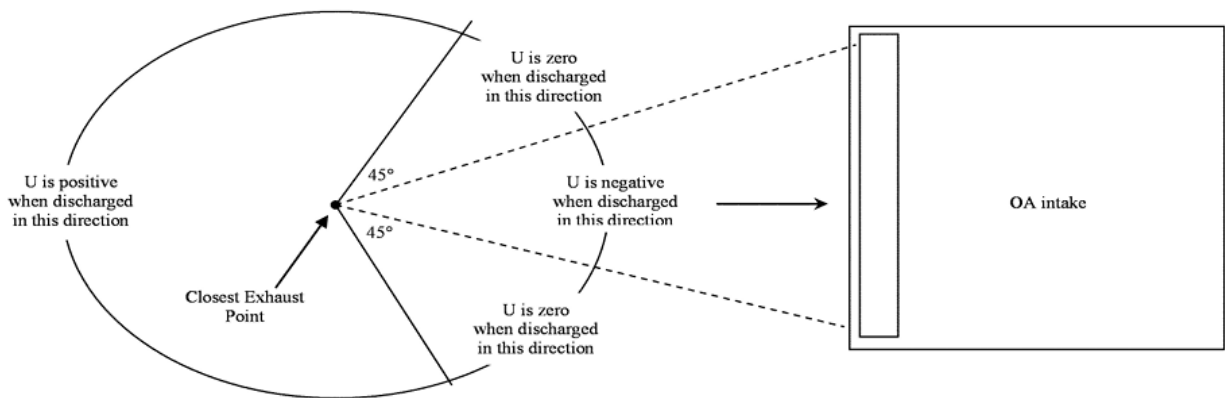
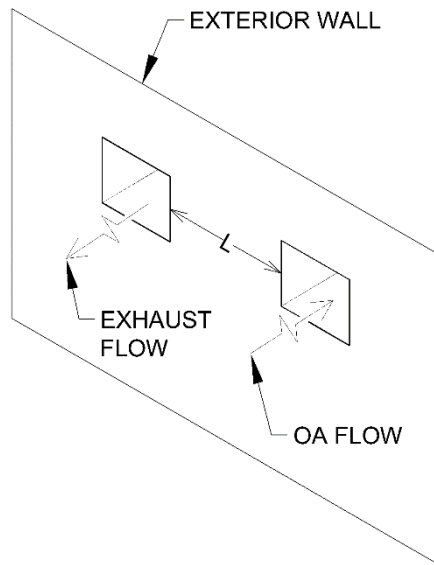

Figure B-1 Exhaust air discharge velocity (*U*).
Figure 1: Exhaust Flow Interpretation No.4
Reference: This request for interpretation refers to the requirements presented in ANSI/ASHRAE Standard 62.1-2022, Sections 5.4.1 and B2.2, Tables 5-1, B-1, B-2, B-3, Figure B-1, regarding outside air intake minimum distance from a potential outdoor contaminant source.
U = exhaust air discharge velocity, fpm (m/s). As shown in Figure B-1, U shall be determined using Table B-2.
Interpretation No.4: When using calculation method B2.2, if an exhaust grille and an outside air intake are on the same exterior wall and the exhaust flow from a powered exhaust is blowing out of a grille in the complete opposite direction of the outside air intake incoming air flow (see below Figure 1 for visual representation of this case), the Exhaust Air Discharge Velocity Modifier (U) is a positive value according to Table B-2 and Figure B-1.